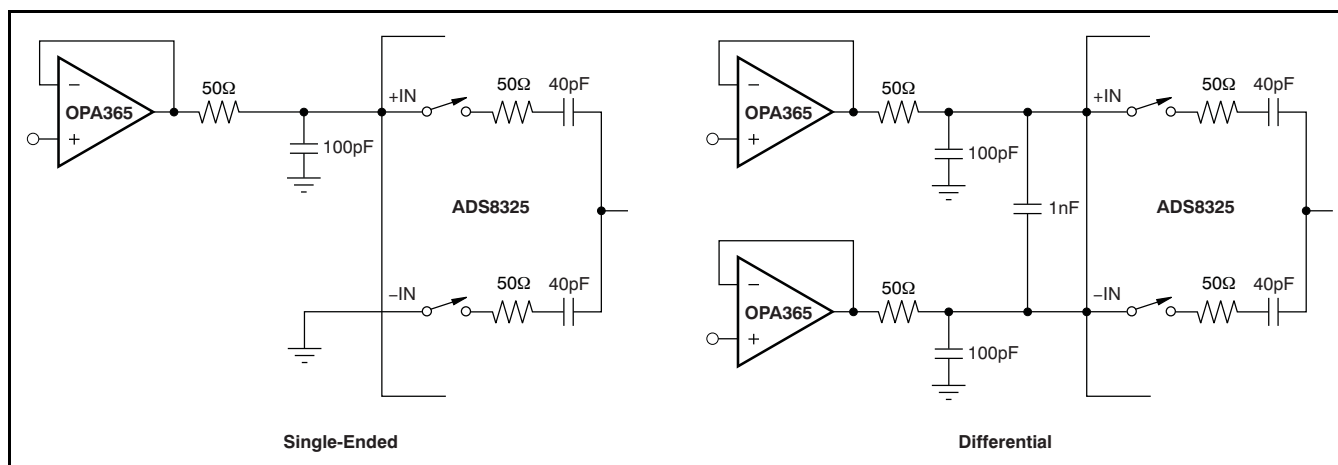

Figure 31. Single-Ended and Differential Methods of Interfacing the ADS8325
To minimize noise, low bandwidth input signals with lowpass filters should be used. In each case, care should be taken to ensure that the output impedance of the sources driving the +IN and -IN inputs are matched. Often, a small capacitor (20pF) between the positive and negative inputs helps to match their impedance. To obtain maximum performance from the ADS8325, the input circuit from Figure 31 is recommended.
- Changed Figure 31 17